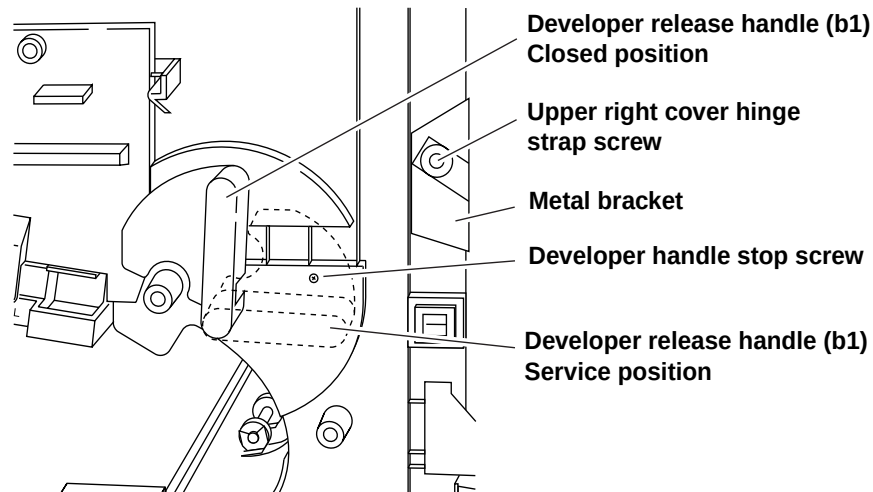

Figure 5-68 Developer Release Handle, Stop Screw, and Metal Bracket
- Step 3** Remove the developer handle stop screw. See Figure 5-68.